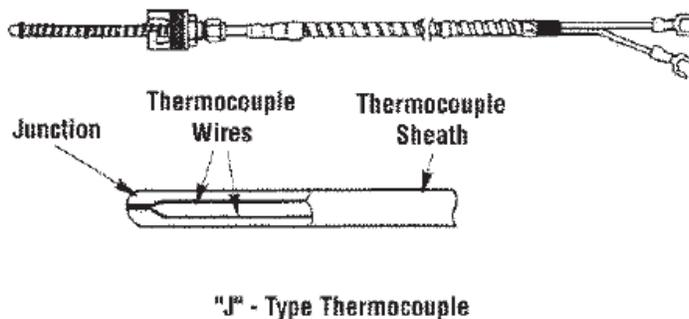

Figure 33a. Thermocouple
For reasons of cost and convenience, the thermocouple (TC) is the most common temperature-measuring element (Figures 33a. & b.). Basically, a thermocouple consists of two dissimilar wires that are joined to form a thermo-junction. A thermo-electric electromotive force (EMF) is generated at the junction of unlike metals if one thermo-junction (one end of the assembly) is made hotter than the other. The magnitude of the EMF depends on the metals used and on the temperature difference of the junctions. For a given combination, the more the one junction is heated, the greater will be the electrical signal. If one end is kept at a stable reference temperature (by cold junction compensation) then the thermocouple may be calibrated, so that a simple and accurate measurement of temperature can be made. The measurement may be displayed as °C or °F in analog or digital form. Usually, a thermocouple (TC) has the tip protected by a rigid metal sheath and a flexible metal covering protects the connecting wires.